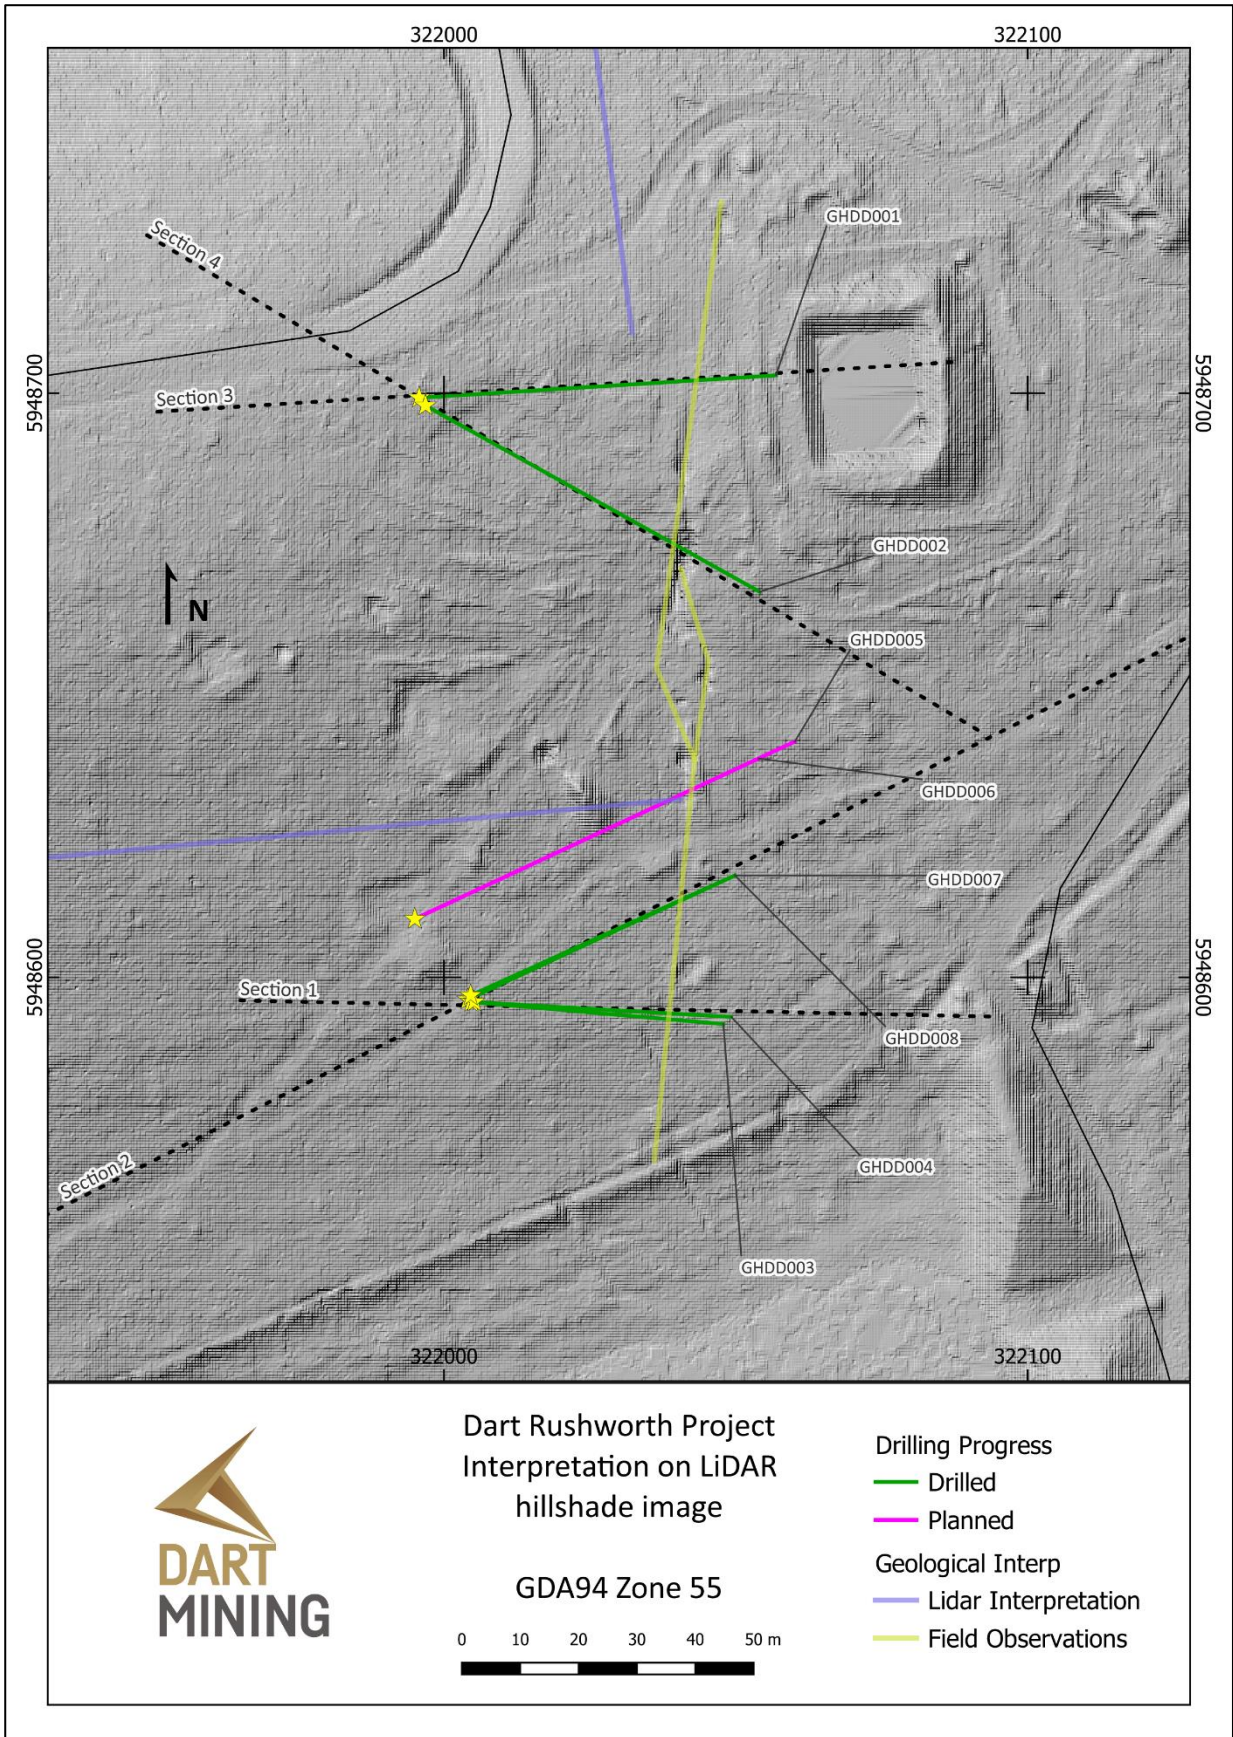
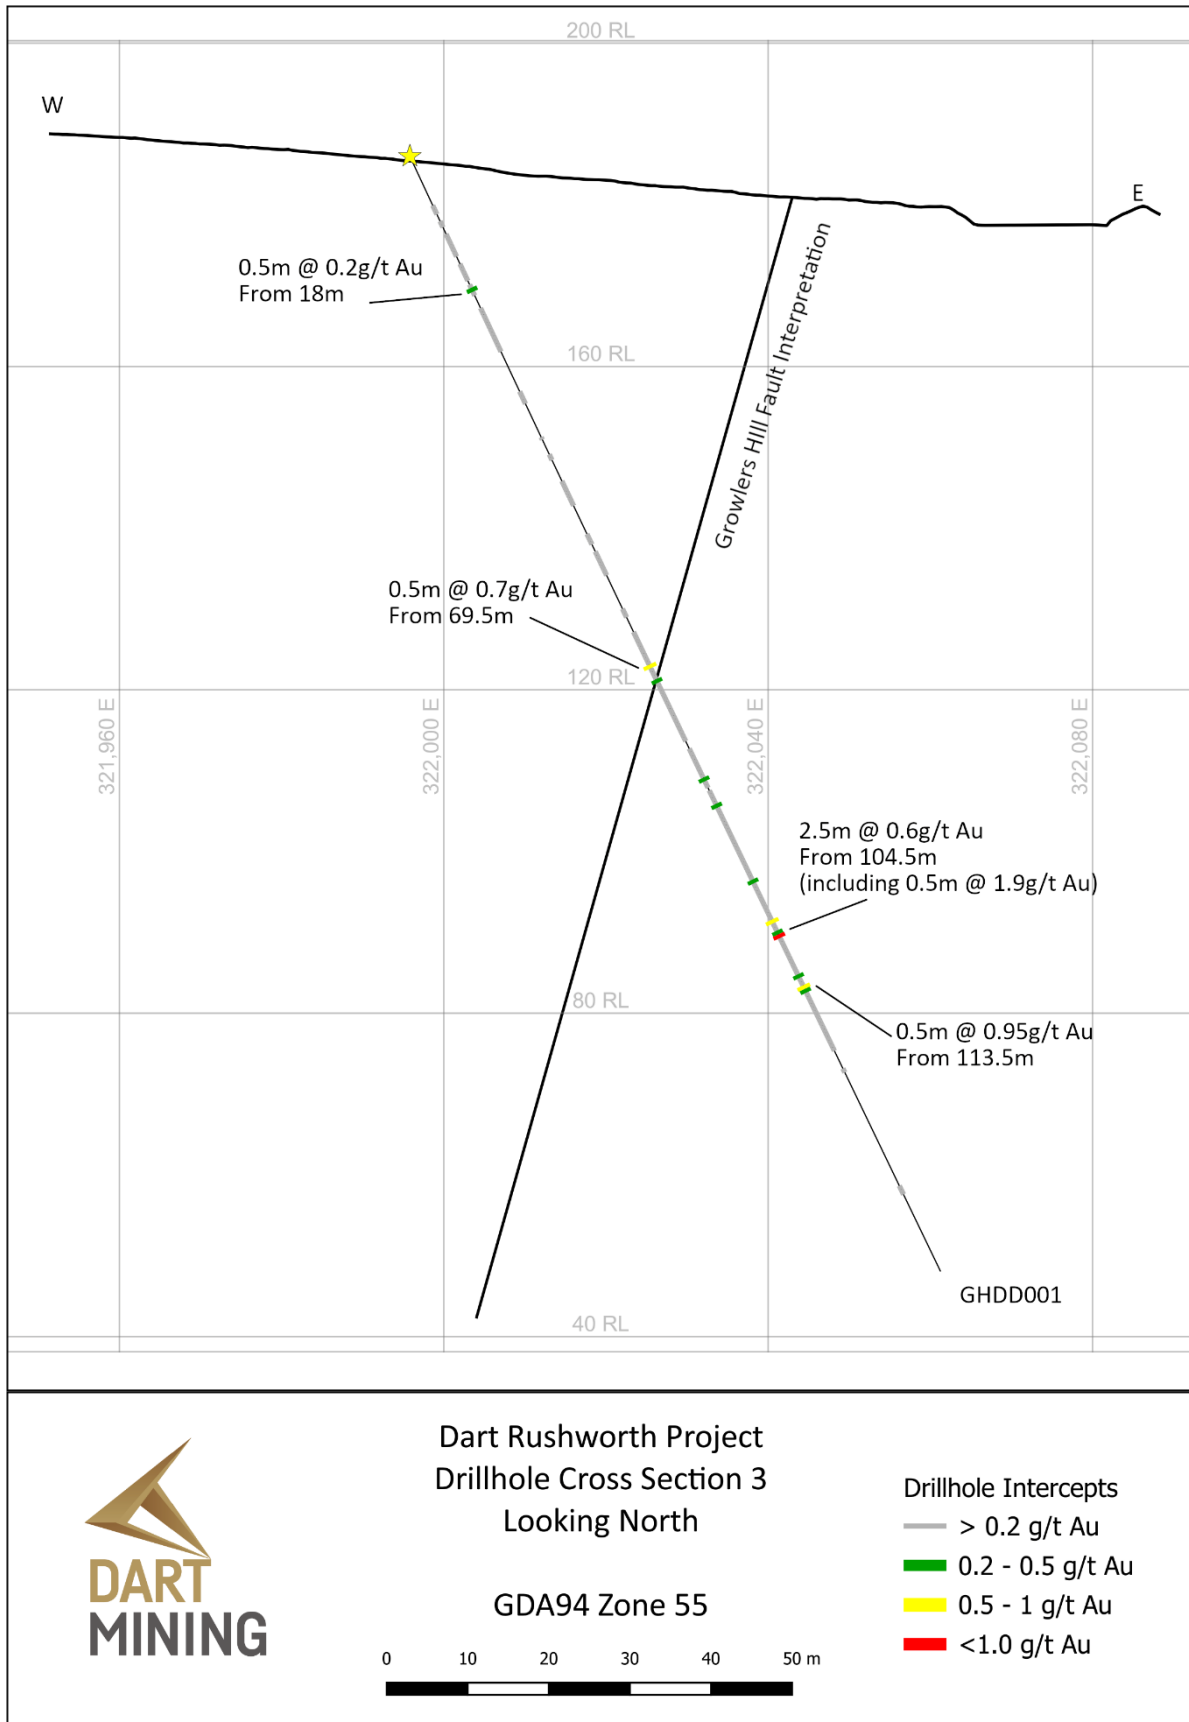
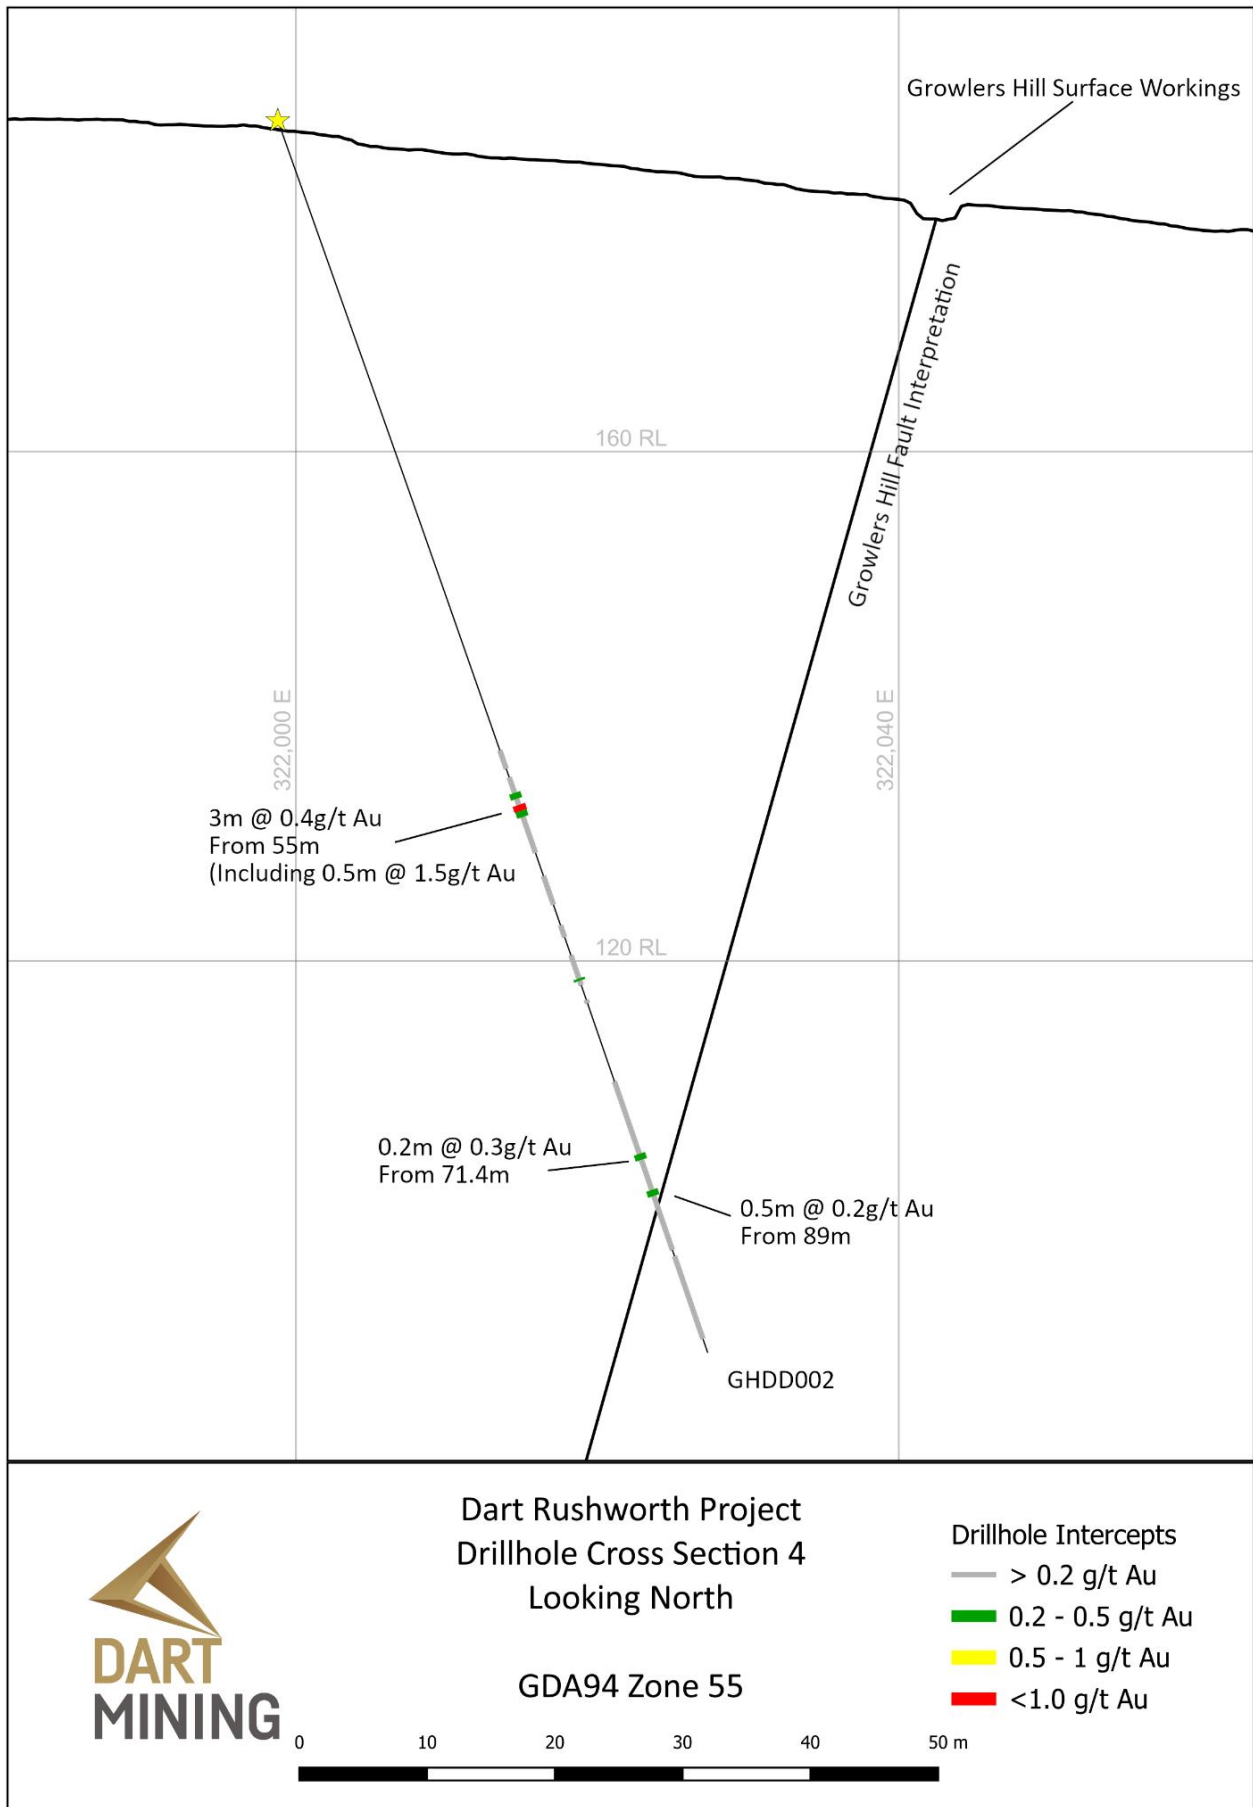

Figure 1: Growlers Hill Drilling Plan
Figure 4: Cross section 3 looking North showing drillhole GHDD001
Figure 5: Cross section 4 looking North showing drillhole GHDD002
- Gold intersections appeared on both the interpreted Growlers Hill Fault as mined on surface and a deeper secondary structure as shown in Figures 1 – 5 below.
The Northern Drillholes (GHDD001 and GHDD002 shown in Figures 1, 4 & 5) intersected mineralised structures in both the hangingwall and footwall of the main Growlers Hill Structure, as well as the narrow low-grade intersection of the main Growlers Hill Structure. GHDD001 (Figure 4) intersected 2.5m @ 0.6g/t Au at 104.5m from a very wide zone of broken ground and low density stockwork veining from approximately 89m down hole to 120m depth. GHDD002 (Figure 5) intersected 3m @ 0.4g/t Au at 55m (Figure 5) from a series of veins cross cutting bedding, with apparent sulphide pitting in slightly weathered sandstone, with the interpreted Growlers Fault further downhole at 89m depth. Both zones from GHDD001 & GHDD002 show a significant amount of alteration, with iron staining, chlorite and sericite surrounding most veins.
Drilling has highlighted that the Growlers Hill Reef mined historically is likely a combination of several structures, with historic mining likely exploiting dilatational zones where the major structures intersected or bifurcated. Evidence for this can be seen in the en echelon shape of the surface workings, evident in Lidar images, just to the north of the planned holes GHDD005 and GHDD006 shown in Figure 1.